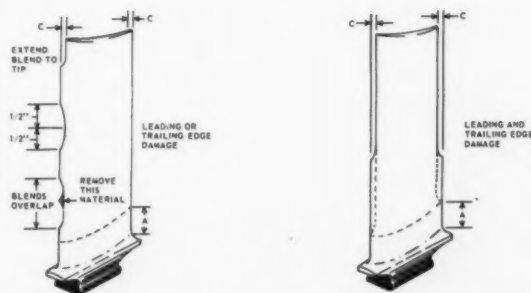

Figure 3
**Compressor Blade FOD Limits:** Overall, the field study indicated that the limits in the field manuals were not as clear as they could be. The need for interpretation would lead to unduly conservative decisions on serviceability and field repair. It was also felt that the limits were not being applied properly. Several engines were found at the O&R's within field limits. Corrective action was taken and the limits presentation in the manual was clarified. This was accompanied primarily by use of more visual aids as shown in Fig. 3. In order to expedite compliance, the revision was issued by BuWeps approved Engine